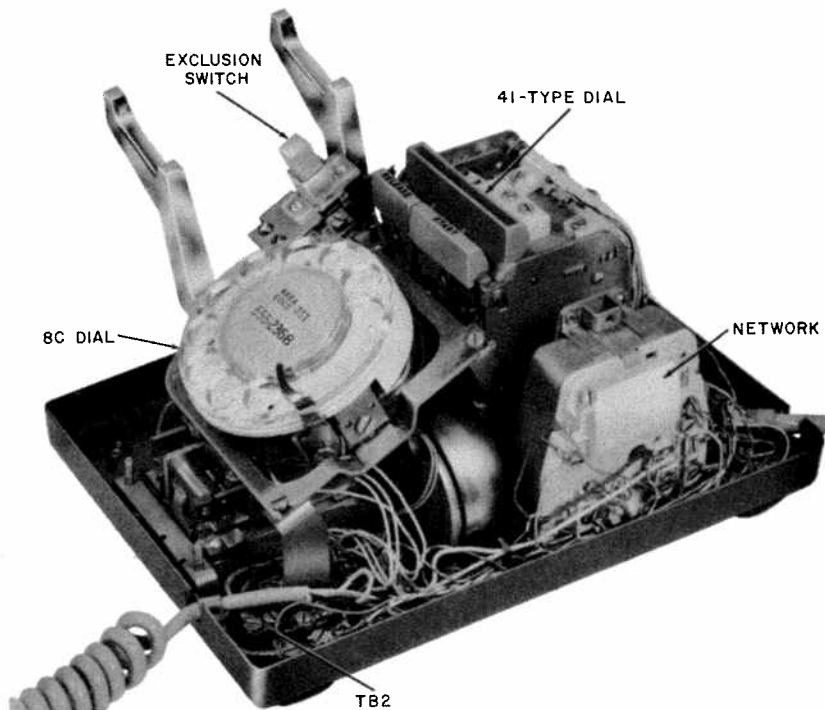

Fig. 3 — 660-Type Telephone Set, Cover Removed
2.04 The 660- and 663-type telephone sets feature both an 8C dial and a 41-type dial (Fig. 3). The 41-type dial is an electromechanical dial driven by an ac synchronous motor. The motor requires a low voltage power supply (Table B).